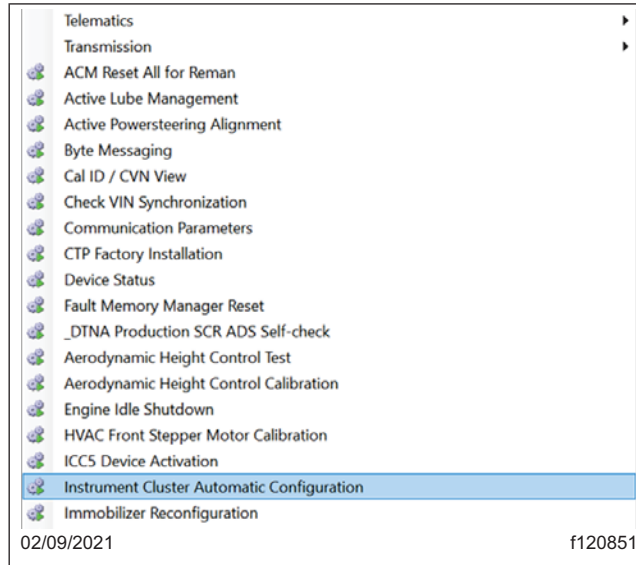

Fig. 13, 'Actions' Menu with 'Instrument Cluster Automatic Configuration' Selected
14. Select the 'Actions' menu and scroll down and select 'Instrument Cluster Automatic Configuration' as shown in Fig. 13.